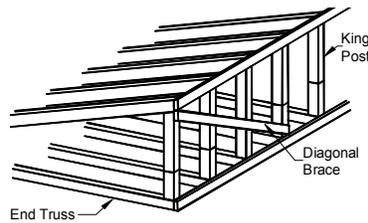

Figure 20. Diagonal bracing
5. [Alternate] **Install Bracing.** Install diagonal bracing at both ends of each home section from the top of the gable end truss approximately 45 degrees downward. Keep trusses plumb and secure the brace with two (2) 7/16" x 1-3/4" x 16 ga minimum staples per truss (**Figure 20**).